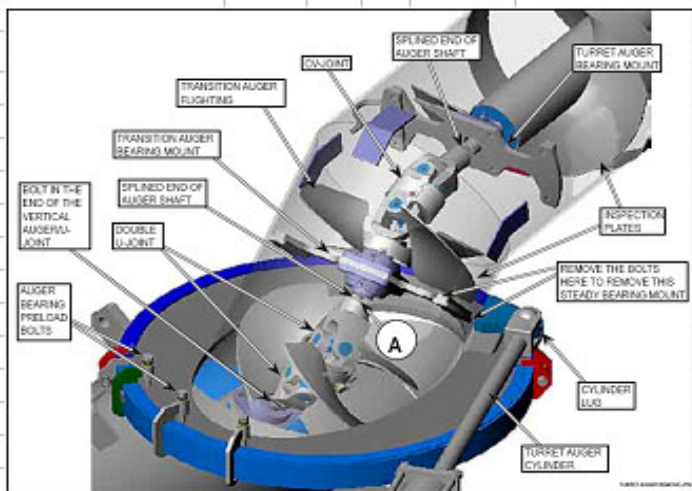

Figure 8.14
3. Loosen the bolts (shown in *Figure 8.14*) on the outside diameter of the clutch until all bolts are just loose, then tighten all bolts one half (1/2) turn.